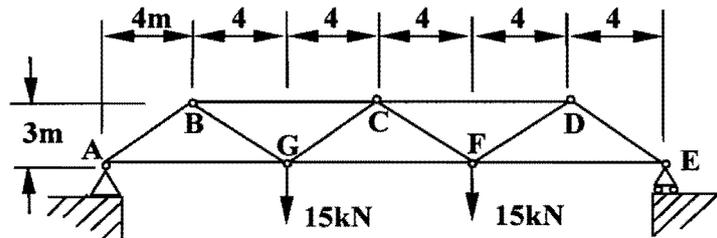

Figure 5
- † 6. Find the support reactions at A and E acting on the truss shown in Fig. 5. By resolving forces at the joints or by using the method of section as appropriate, find the axial forces in the members DE, GF, and GC.